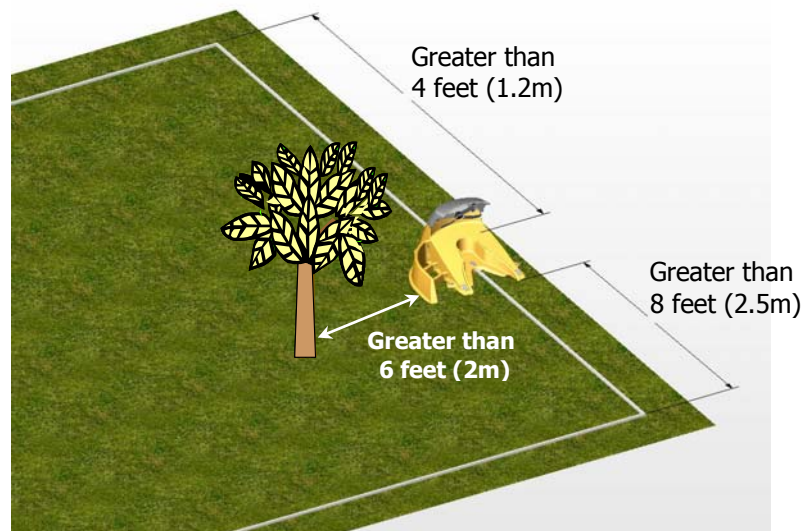

Figure 1.3 – Distance From Corners and Obstacles
- Place the Docking Station at minimum distances from corners of the perimeter as shown in figure 1.3
- A minimum distance of 6 feet (2 meters) is required between the Docking Station fence and any obstacle not excluded with the perimeter wire. See figure 1.3.